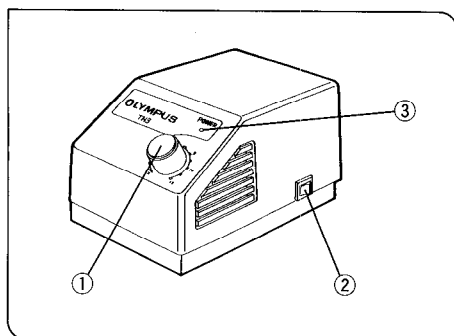

Fig. 11
1 Adjusting the Illumination Brightness (Figs. 11,12)
1. After making sure the transformer's voltage adjustment knob ① is turned to the "2" side (low voltage side), turn ON the main switch ②.
- At this point, the operating indicator LED ③ (green) goes on.
2. Rotating the voltage adjustment knob ① clockwise (toward "12" on the scale) will raise the voltage. (Fig. 11)